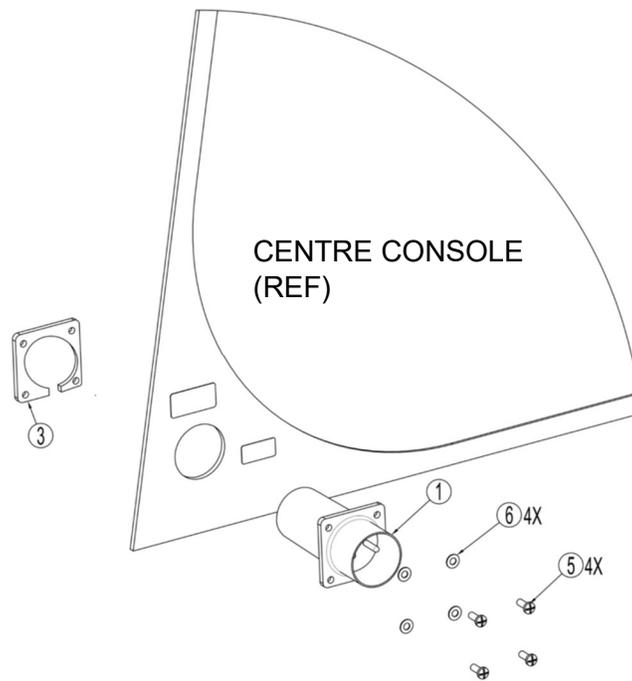

Figure 2 Utility Power Plug Exploded View
4. Install the Cannon Plug using the hardware shown in Figure 2.